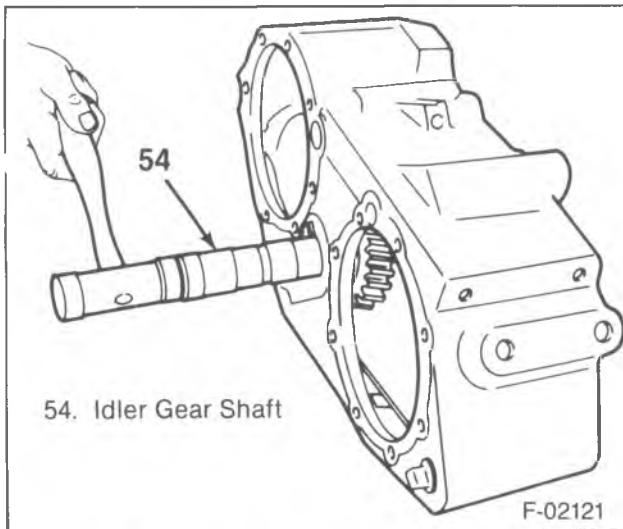

Figure 12—Idler Shaft Installation
- Drive the shaft through, using a soft hammer (figure 12).
- 5. Washer (28).
- 6. New locknut (27).